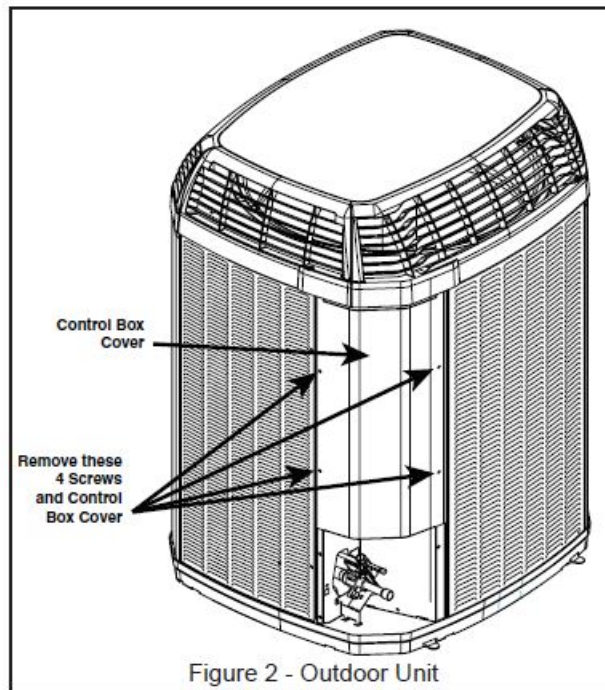

Figure 2 - Outdoor Unit
2. Remove the 4 screws securing the Control Box cover and place screws and cover aside (See “Figure 2 – Outdoor Unit”).